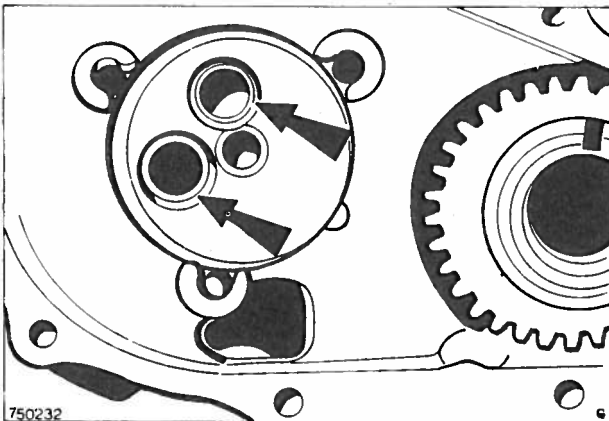

Fig. 32 Location of the oil pump seals
15. Fit new seals to the oil pump galleries – see Fig. 32. Ensure that all components are thoroughly clean, paying particular attention to joint faces and bearing surfaces. Fill the engine oil pump with the correct grade of oil before installing – refer to Specifications in 'Lubrication' section.